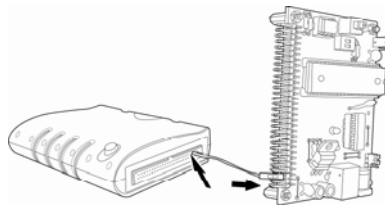

Fig. 2-3
3. The circuit board must be grounded to the Logic Analyzer with the connecting cables (Fig.2-3).